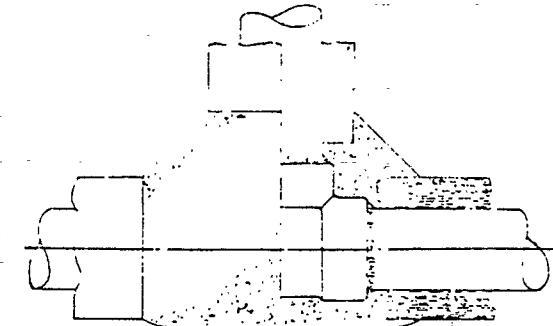

FIGURE 6
7.1 Welded fittings 3 inches and smaller shall be insulated with Insulation Cement, Code 502, to a thickness equal to the adjacent pipe insulation. See Figures 6 and 7. Where screwed piping is over 2 inches the above procedure is to be followed.